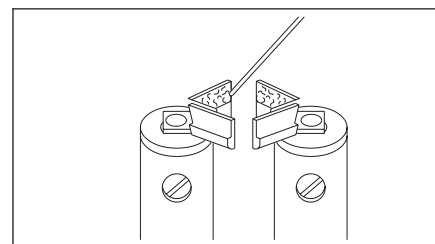

Figure 2 Tin Tips
8. Tin inside edges of tips with solder. (See Figure 2.)